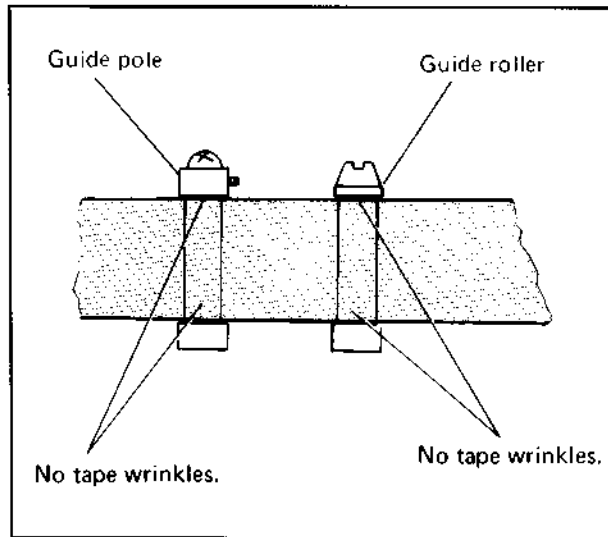

Fig. 5-32
2. Observe tape traveling at the supply guide pole, full erase head, guide rollers and take-up guide pole and confirm absence of tape wrinkles (see Fig. 5-32).